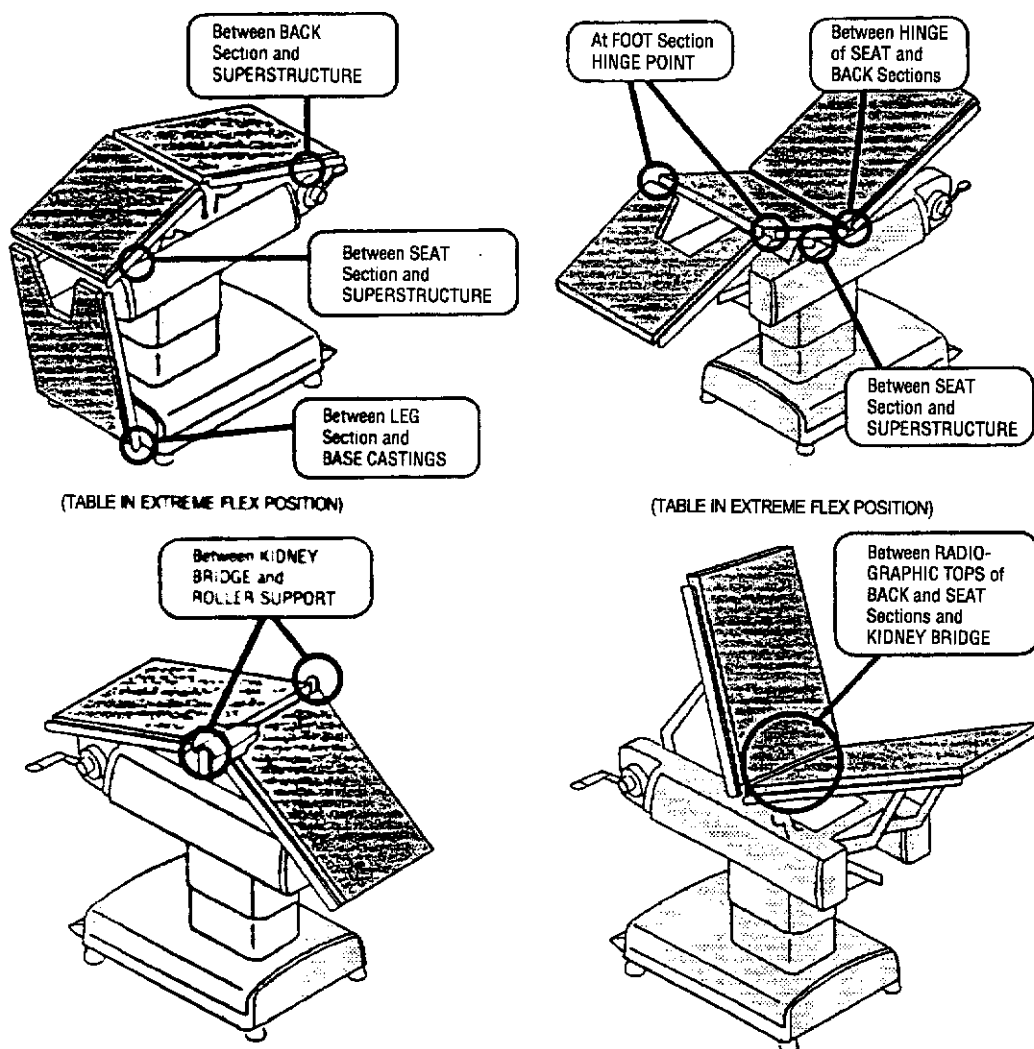

Figure 2-1. Possible Pinch Points
- ⚠ Pinch points are created during extreme tabletop articulation. Carefully review illustrations in Figure 2-1, Possible Pinch Points, before operating the table.
⚠ WARNING – PINCHING HAZARD: Pinch points are created during extreme tabletop articulation. Carefully review illustrations in Figure 2-1, Possible Pinch Points, before operating the table.
During extreme tabletop articulation, eight possible pinch points exist. These points are identified in Figure 2-1.
WARNING – PINCHING HAZARD: Pinch points are created during extreme tabletop articulation. Carefully review illustrations in Figure 2-1, Possible Patient Pinch Points, before operating the table.